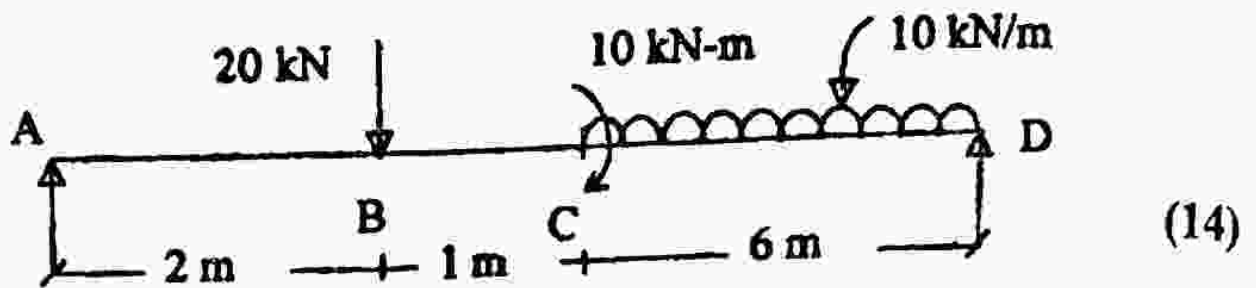

Fig. 4
8. A stepped steel shaft consists of a hollow shaft 2 m long with an outside diameter of 100 mm and inside diameter of 75 mm rigidly attached to a solid shaft 1 m long & of 75 mm diameter. Determine the maximum torque that can be applied without exceeding a shearing stress of 70 N/mm² or a twist of 2.5° in a length of 3.0 m. Assume $G = 8.5 \times 10^4$ N/mm². (13)
9. A simply supported beam having a span of 9 m is loaded as shown Fig. 4. Calculate the deflection of beam at mid point CD.